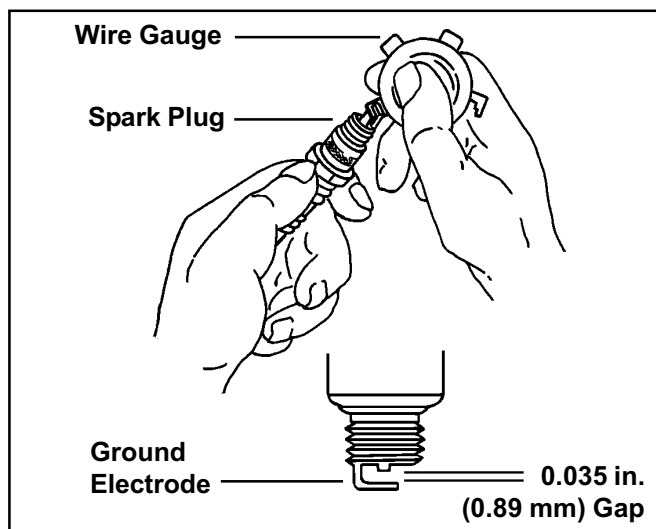

Figure 8. Servicing Spark Plug.
3. Check gaps using a wire feeler gauge. Adjust the gaps to **0.035 in. (0.89 mm)** by carefully bending the ground electrode. See Figure 8.